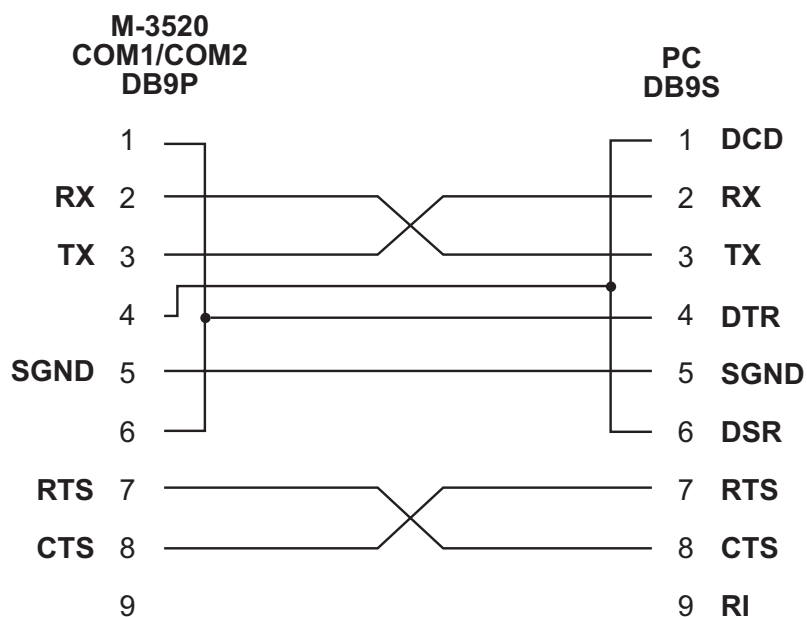

Figure B-1 Null Modem Cable
A null modem cable (see Figure B-1) allows direct connection to a personal computer (PC), if desired.